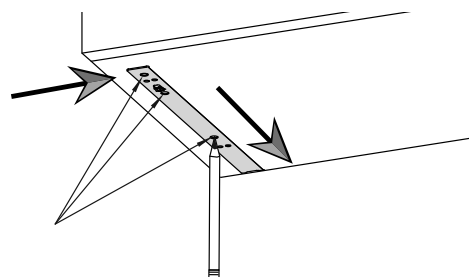

Fig. 16-3
- Use a pencil to mark the location of the 3 center holes as shown in fig. 16-3.